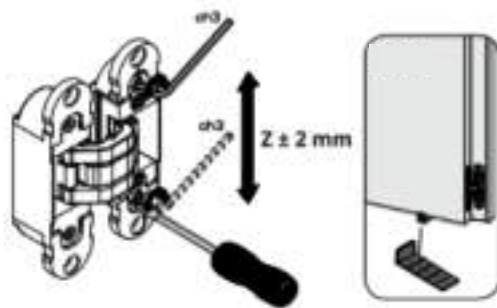

Figure 1
1. Loosen the two screws indicated in fig. 1 on the part of the hinge fixed on the frame using a 3 mm hexagonal wrench.
3. The operation can be made easier by inserting the point of a flat screwdriver in the housing of the hinge or by using an Otlav wedge with 5 spacers figure 1.